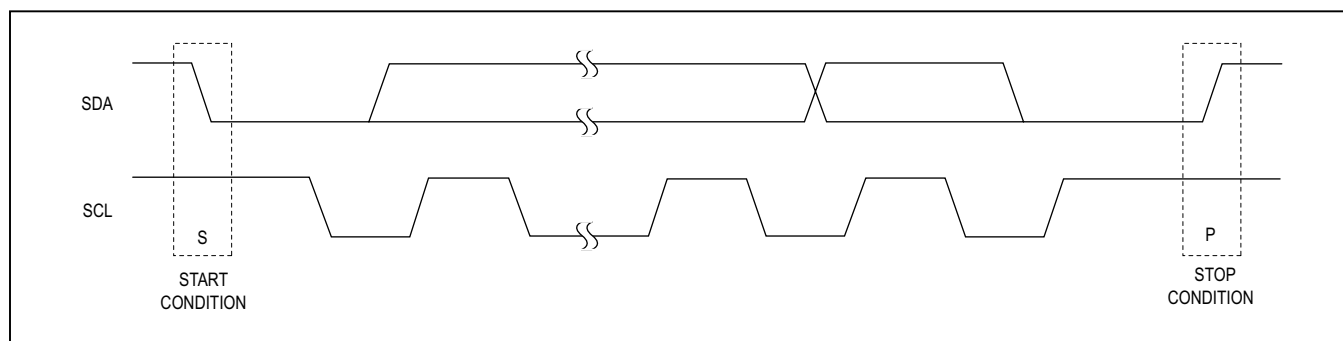

Figure 33. START and STOP Conditions
Both SCL and SDA remain high when the interface is not busy. A master signals the beginning of a transmission with a START (S) condition by transitioning SDA from high to low while SCL is high (see Figure 33). When the master has finished communicating with the slave, it issues a STOP (P) condition by transitioning SDA from low to high while SCL is high. The bus is then free for another transmission.